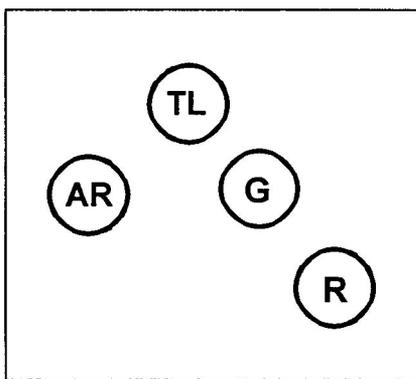

Figure 071-326-0501-1. Fire team wedge
a. Assume your position within the fire team wedge formation (figure 071-326-0501-1).